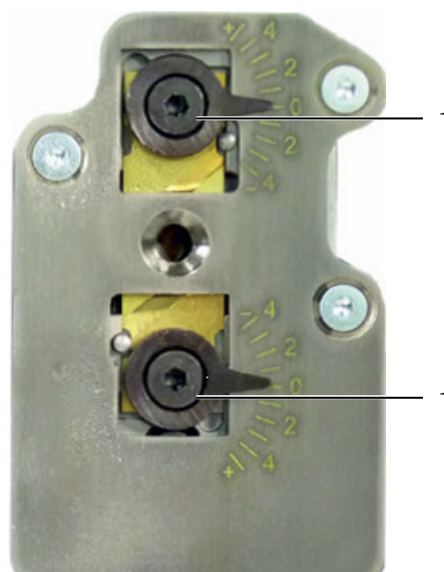

Fig. 13: Stripping unit
- Release both eccentrics screws (fig. 13, item 1) (Allen key 2.5 mm).